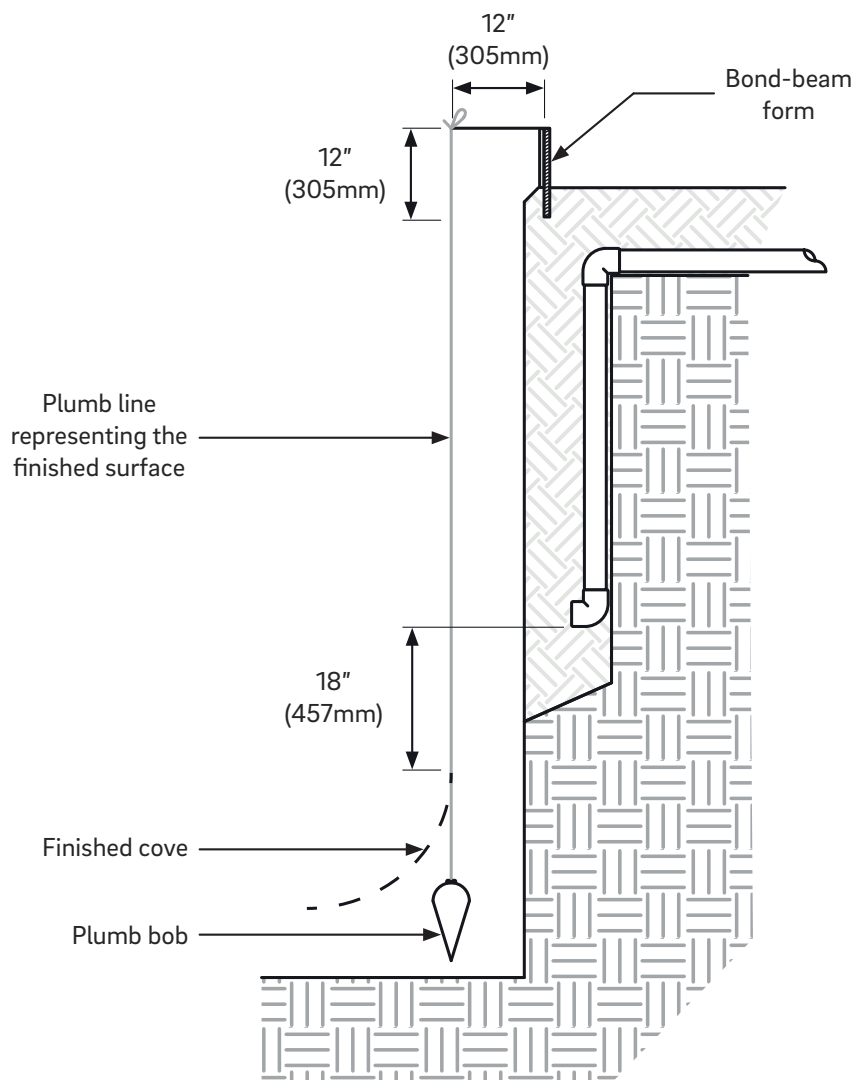

Figure 13
1. The AVSC drain is to be located midway down the wall, in-line with the deepest part of the pool. The bottom of the 90° elbow feeding the drain from the main suction line, must be a minimum of 18 inches above the top of any cove, and the upper edge of the drain sump must be placed at least 12 inches below the bond beam form (Figure 13).
2. Maintain a plumb line 12 inches away from the front of the bond beam form toward the center of the pool. This line will represent the finished surface of the wall (Figure 13).